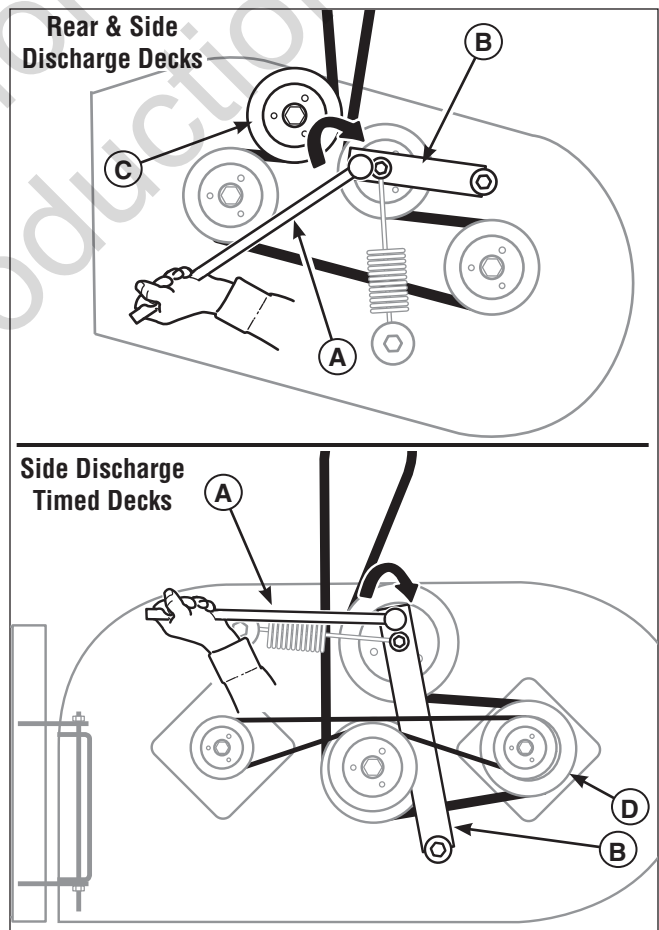
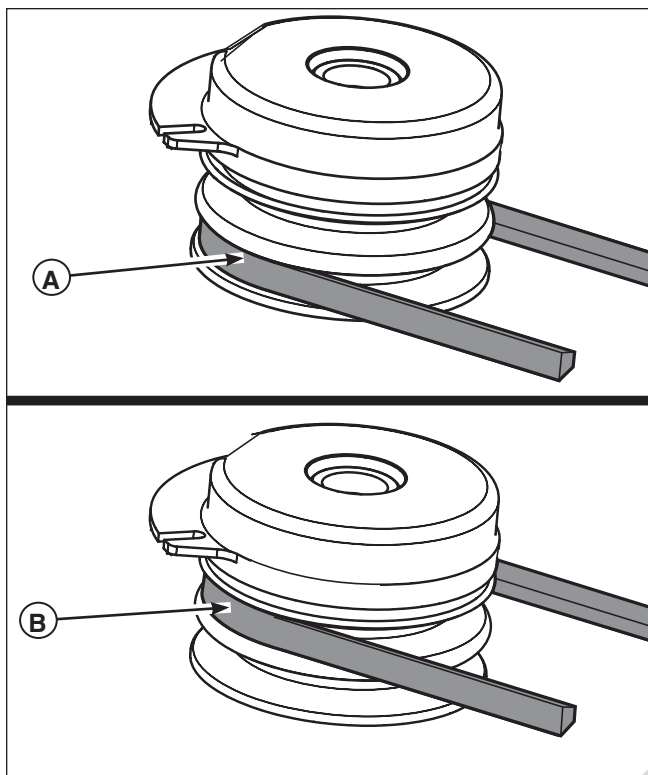

Figure 5. Remove the Cutter Deck Belt
Figure 6. Belt Positioning for Cutting Range
2. Using a 1/2" breaker bar (A, Figure 5), place the square end in the square hole located on the end of the idler arm (B). Carefully rotate the breaker bar **clockwise**, which will relieve the tension on the belt exerted from the idler arm.
- 3A. **Rear & Side Discharge Decks:** Slide the drive belt over the edge of the stationary idler pulley (C). Carefully release the tension on the breaker bar until the idler arm comes to a stop.
- 3B. **Side Discharge Timed Decks:** Slide the drive belt over the edge of the left spindle pulley (D). Carefully release the tension on the breaker bar until the idler arm comes to a stop.
4. See Figure 6. If you are adjusting the cutting height range between 1-1/2" (3,8 cm) and 2-3/4" (6,9 cm) position the belt in the lower pulley on PTO clutch. If you are adjusting the cutting height range between 2-3/4" (6,9 cm) and 4.5" (11,5 cm) position the belt in the upper pulley on the PTO clutch.